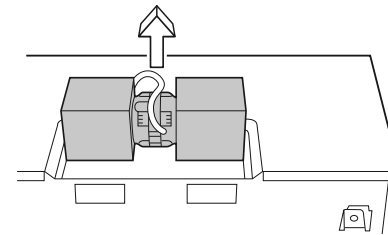

Figure 13
- Lift the Hood Fan Unit carefully and slip wires out of cavity. See Figure 13.